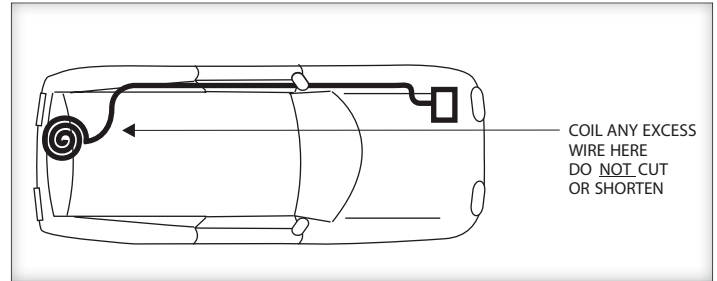

Figure 18-1
- If the harness is too long, coil the excess wire and secure it to the vehicle frame/bumper with the supplied wire ties. [Figure 18-1]